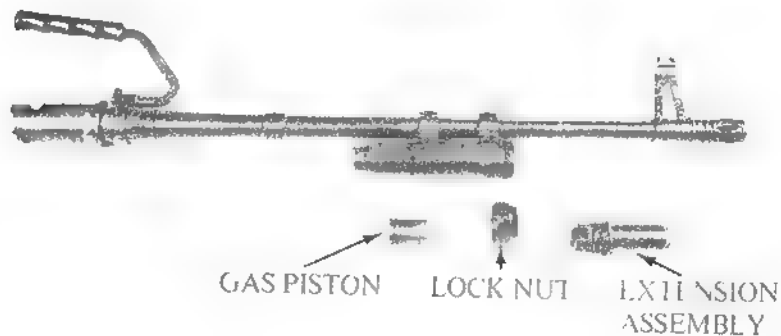

Figure 1-5. — Gas System.
**1401. EXTENSION ASSEMBLY.** The gas system on the M60E3 is simpler to maintain than that of the M60. Instead of having a gas cylinder nut, gas port plug, and gas cylinder extension, which are removable, the M60E3 has only an extension assembly which is removable for cleaning (Figure 1-5). The gas piston is also different from the M60's piston.